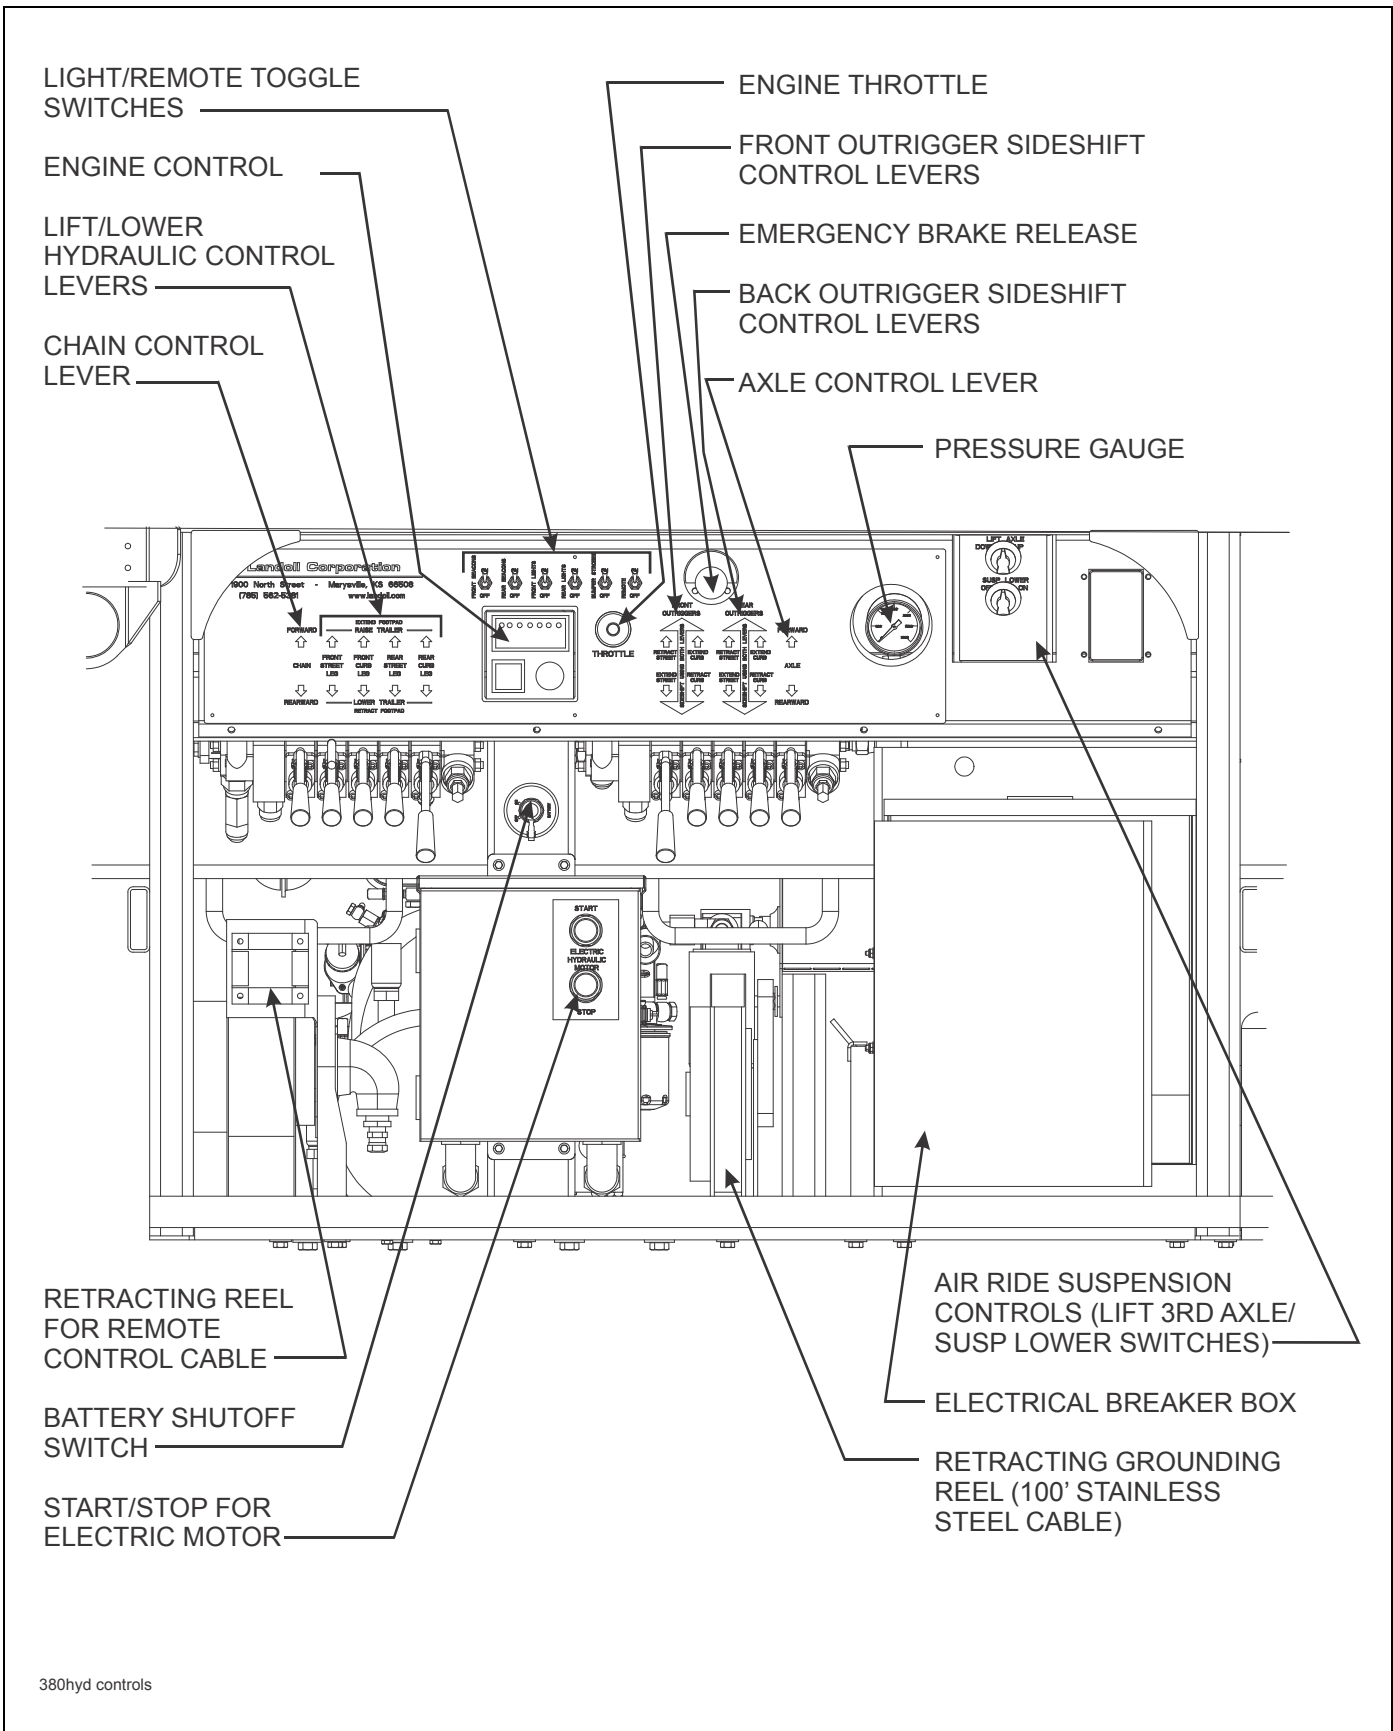

Figure 3-3: Hydraulic Power Center Controls (Streetside)
The **LIGHT/REMOTE SWITCH** panel is located on the driver's side of the power control center (See Figure 3-3.)
2. The **ENGINE IGNITION SWITCH** is located by the hydraulic controls on the driver's side of the semitrailer. Use the key to start and stop the Hydraulic Power Supply Engine (**See Figure 3-3.**) This switch has three positions:
3. The **HYDRAULIC POWER SUPPLY ENGINE THROTTLE** controls the speed at which the engine operates (**See Figure 3-3.**) It is a variable position control:
4. To start the electric motor for the hydraulic pump, press the start button on the streetside of the trailer (See Figure 3-3.)
6. When finished, stop the electric motor with the stop button located on the streetside of the trailer (See Figure 3-3.)
- the toggle switch on the hydraulic control panel must be in the UP/ON position (See Figure 3-3.)